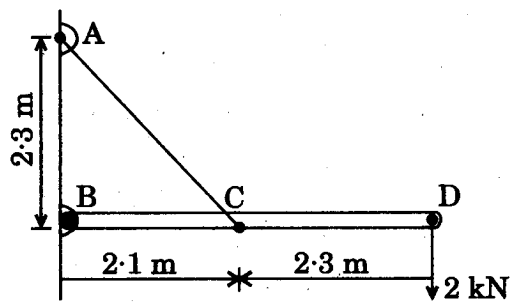

Figure 1
1. (a) A weightless beam BCD is held with the help of a tie rod AC as shown in Figure 1. Determine the reactions at B and tension in the tie rod AC.